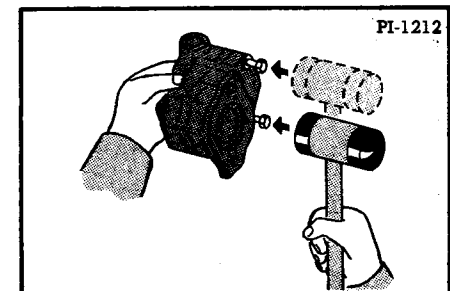

Fig. 137 Separating the Pump Plates
5. Replace two screws in the shaft side and turn them in several turns by hand (Figure 137). Tap sharply on the heads of the two screws, alternating between them (Figure 137). When the dowels are disengaged, remove the screws and separate the plates.